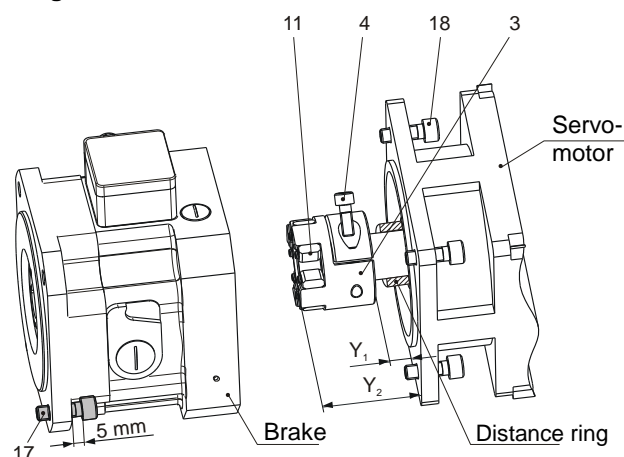

Fig. 26
3. Screw in the cap screws (17) for the brake/machine (leave approx. 5 mm stroke, see Fig. 26).
4. Adjust the output-side shrink disk hub (1) using axial movement to the installation dimension " W " acc. table in section 4.5. We recommend an adjusted distance ring as a fixed limit stop.
5. Tighten the cap screws (2) stepwise (in 3 to max. 6 tightening sequences) and cross-wise to the tightening torque acc. table in section 4.5.
6. Pull the brake back to contact on the screw heads (17) (fixing screws for brake/machine), then push them again against the machine (reason: release of the rotor (22)).
7. Tighten the cap screws (17) for the brake/the machine.